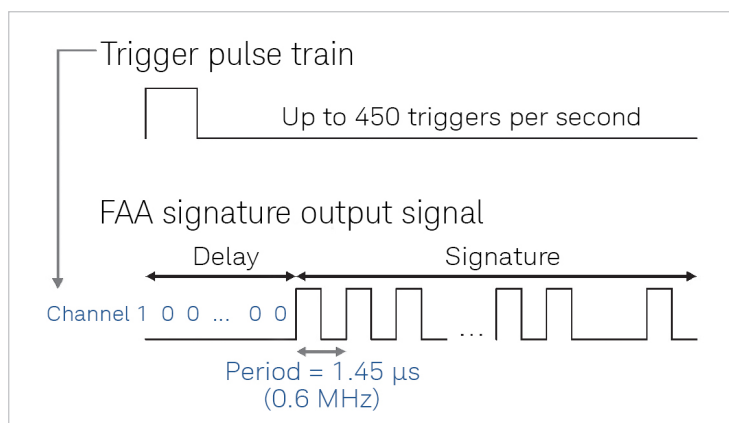

Figure 3
- At 0.6 MHz frequency (Figure 3)